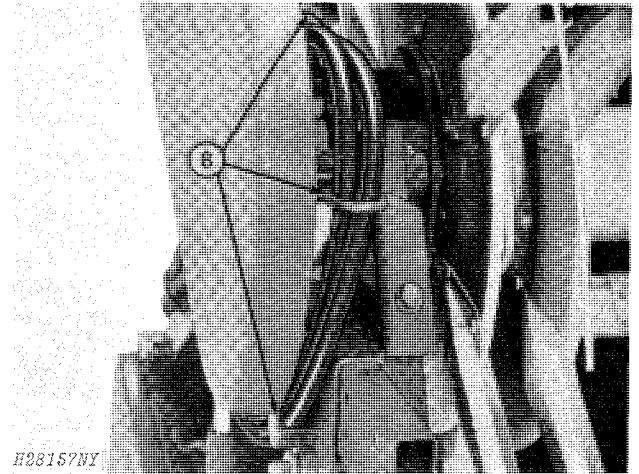

Fig. 64-Routing Reel Drive Hoses
8. Route both reel drive hoses through all three loops on the mounting (Fig. 64). Be certain hoses are straight and are not kinked.